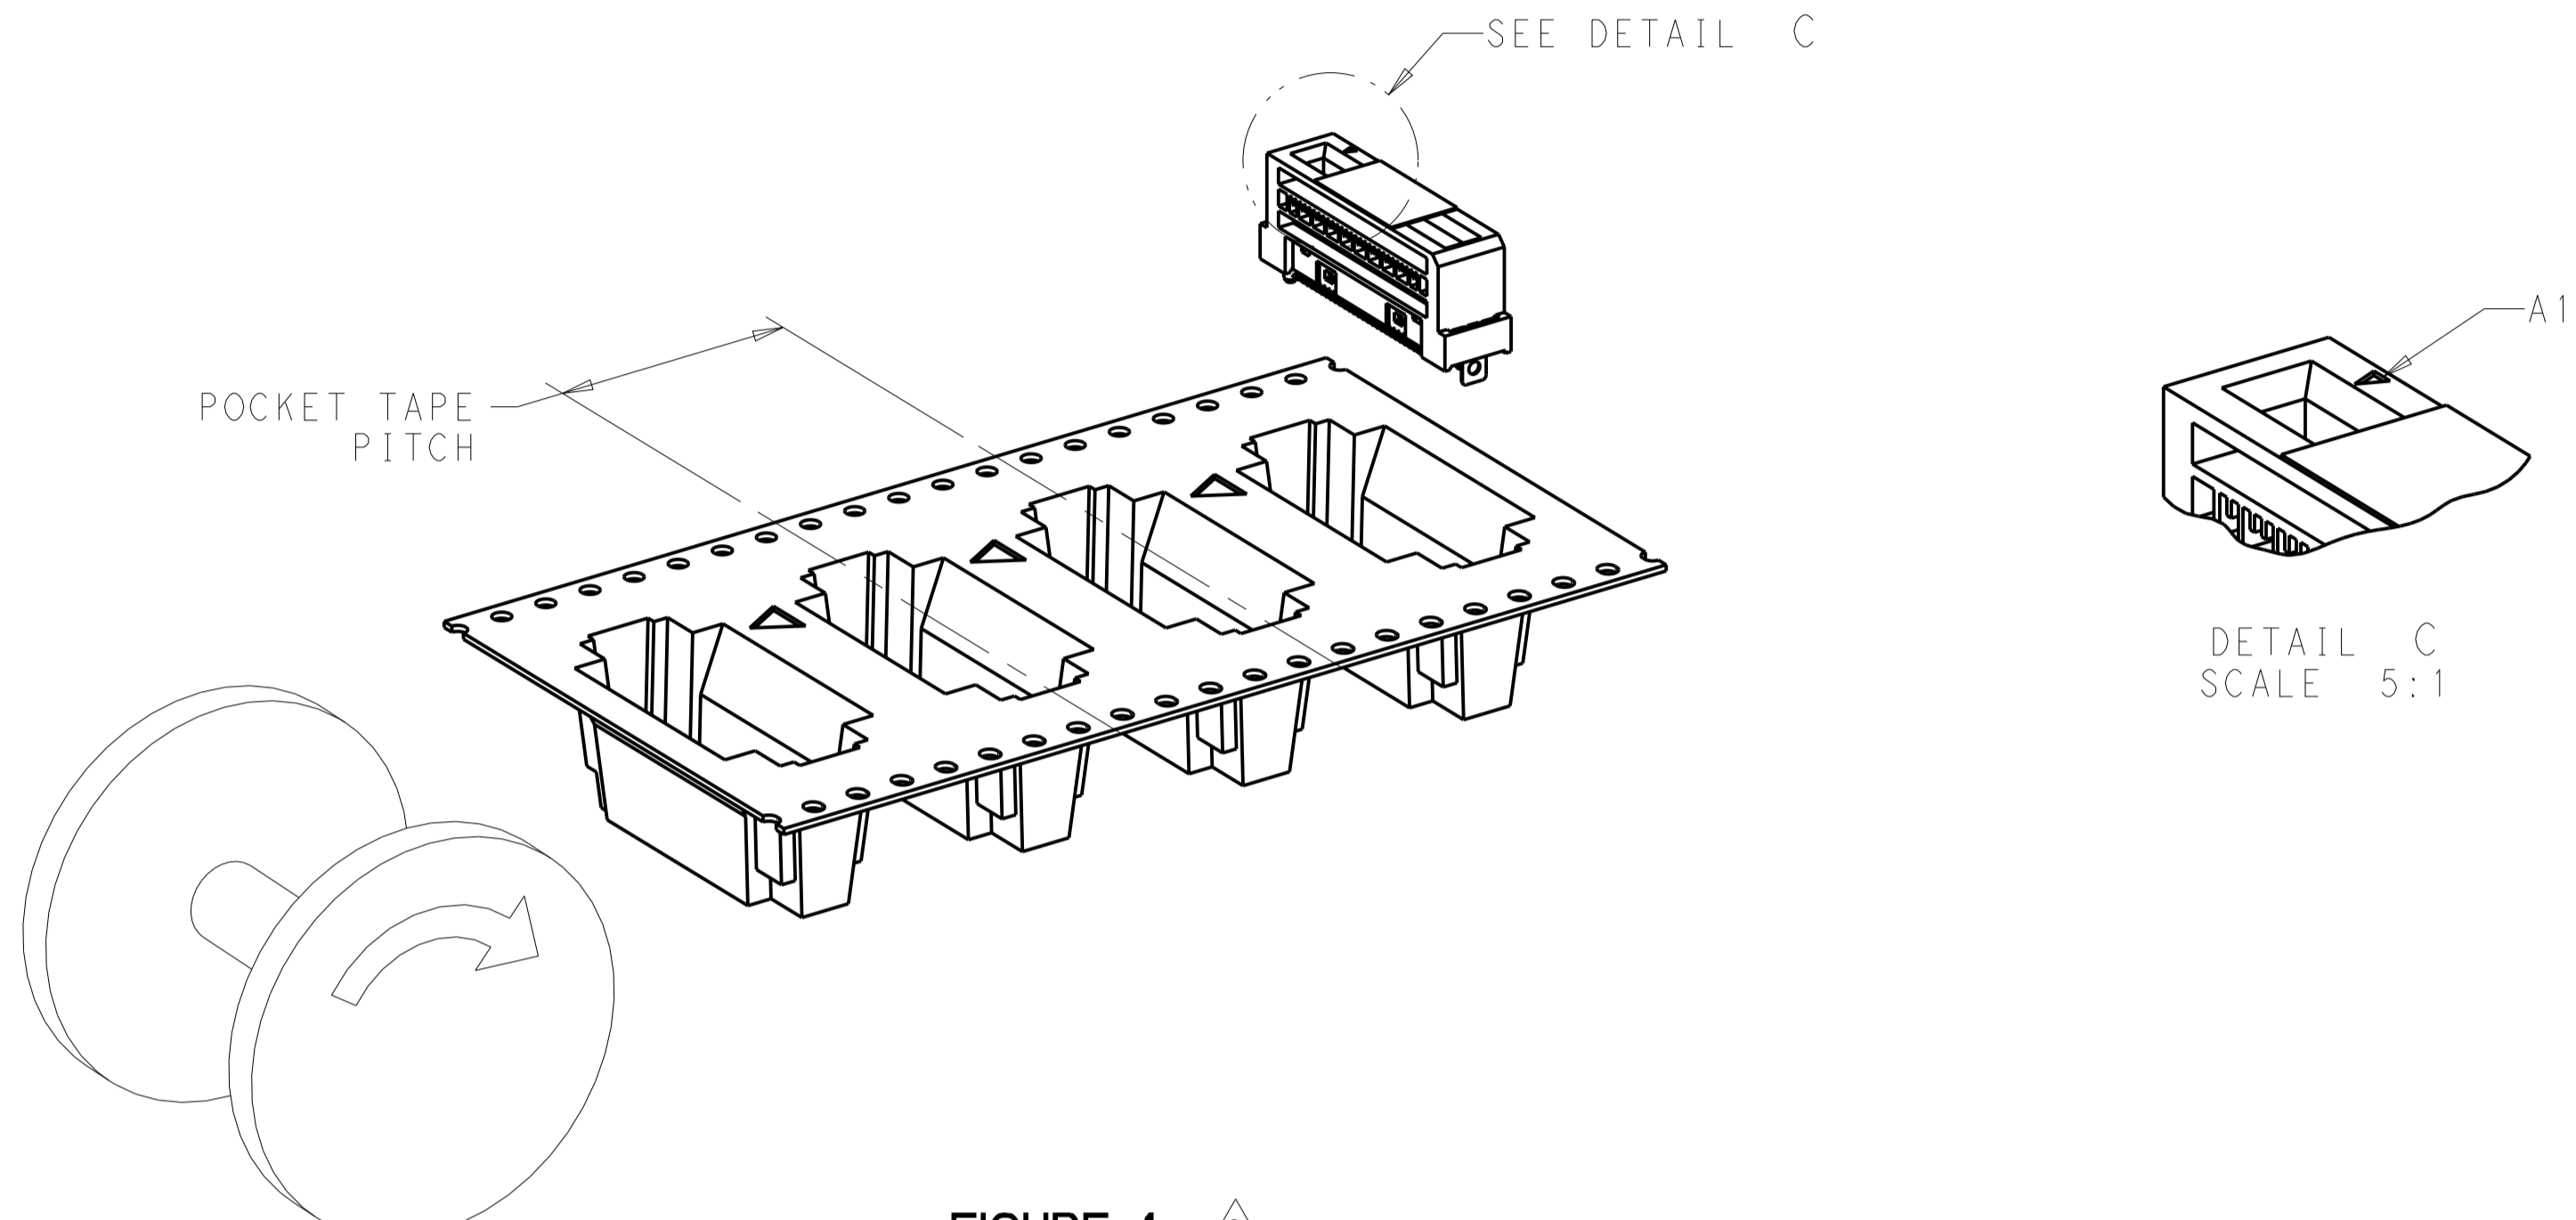

FIGURE 1 \triangle
- ⚠ TAPE AND REEL PACKAGED FOR PICK AND PLACE SMT PROCESSING, SEE FIGURE 1. POCKET TAPE WIDTH = 44.